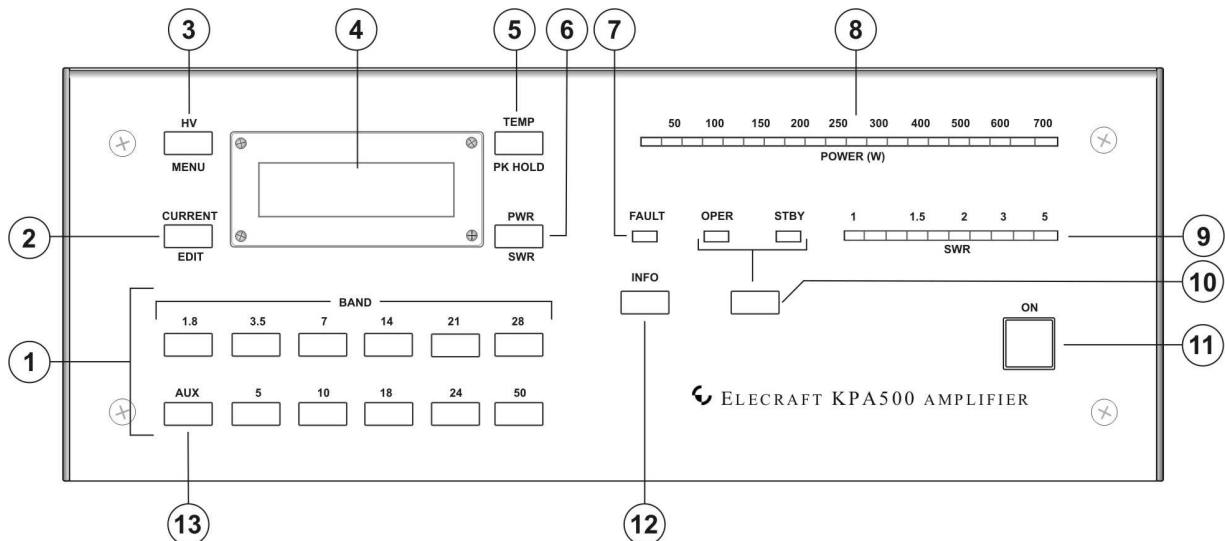

Figure 2. KPA500 Front Panel.
- Position the rear-panel power switch to On (I).
- Tap the **HV** switch ({3} on Figure 2) and note the voltage displayed on the LCD. It must be between 65 and 80 volts. If it is outside of this range, immediately tap the **ON** switch to turn the KPA500 off, and position the rear panel power switch to Off (O). Open the top cover again and select a different transformer tap. If the voltage was too low, select a tap further up the list in the above table. If the voltage was too high, select a tap further down the table.